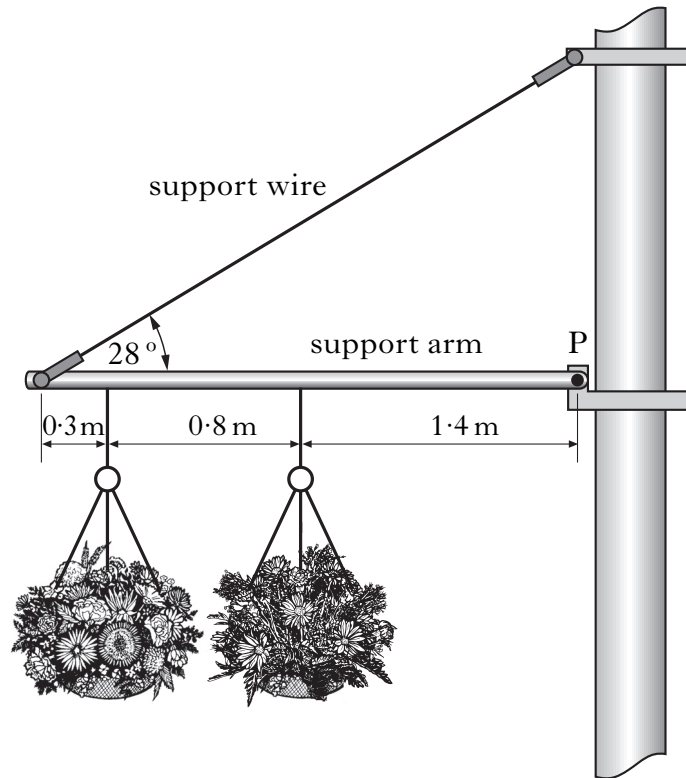

Figure Q6
6. Two hanging baskets, each weighing 150 N, are attached to a support arm which is fixed to a lamppost, as shown in Figure Q6.